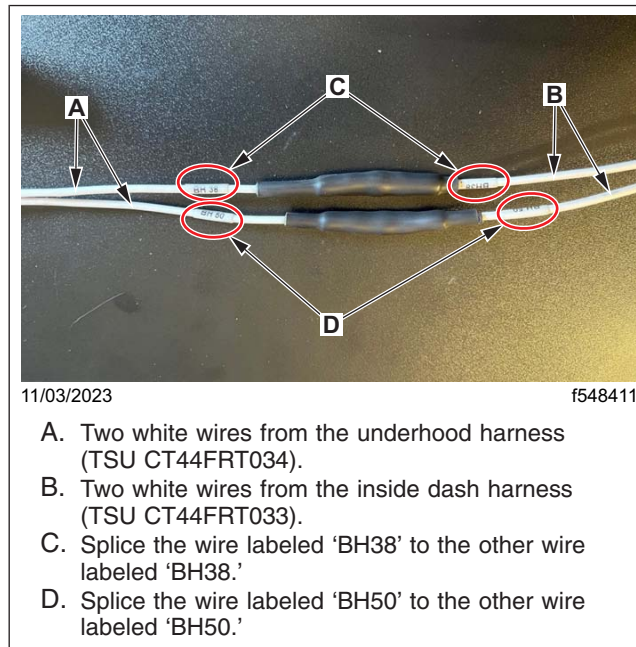

Fig. 63, Splicing the White Wires of the Dash Harness to the Underhood Harness
31. Splice the two white wires labeled 'BH50' and 'BH38' on the harness (TSU CT44FRT033) that was passed through the firewall grommet to the two white wires labeled 'BH50' and 'BH38' on the harness (TSU CT44FRT034). Be sure to match labels 'BH50' and 'BH38' while splicing. See Fig. 63.